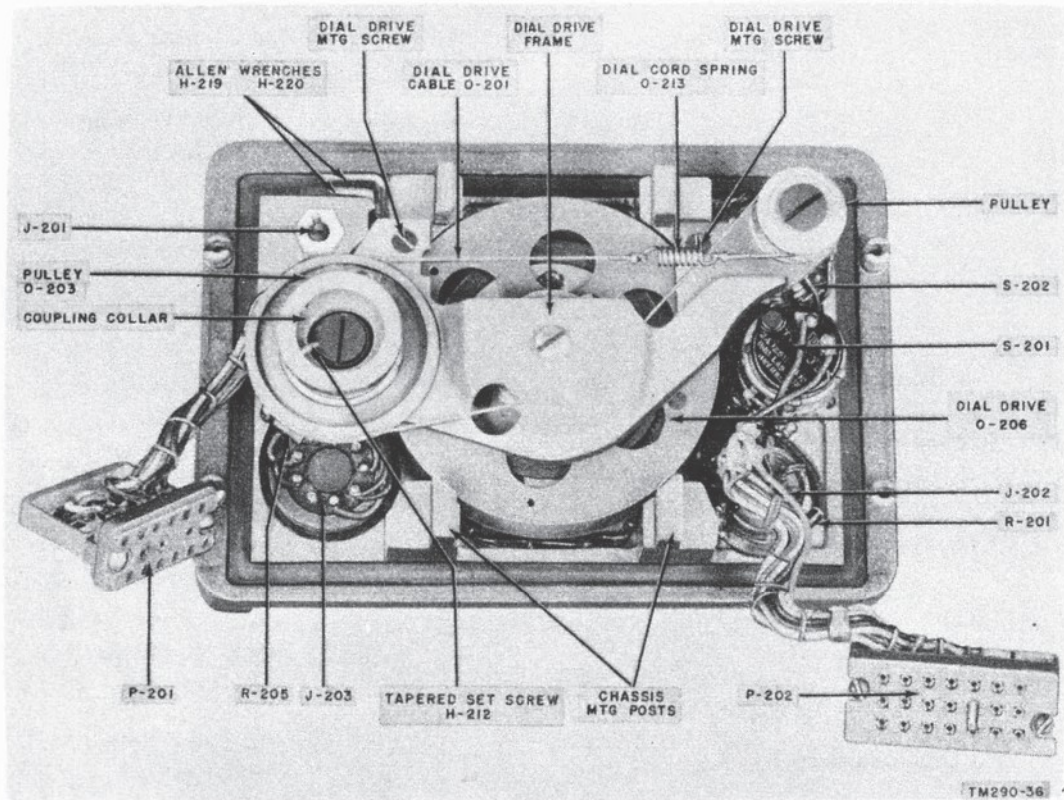

Figure 42. Receiver-Transmitter RT-70(*)/GRC, rear view of panel.
- (1) Disengage the panel from the rest of the assembly to gain access to the rear of the panel (fig. 42). Insert the teeth of the spanner wrench into the notches in the nut of connector on the front panel. Turn the spanner wrench in the counterclockwise direction until the nut is removed. Remove the lockwasher.